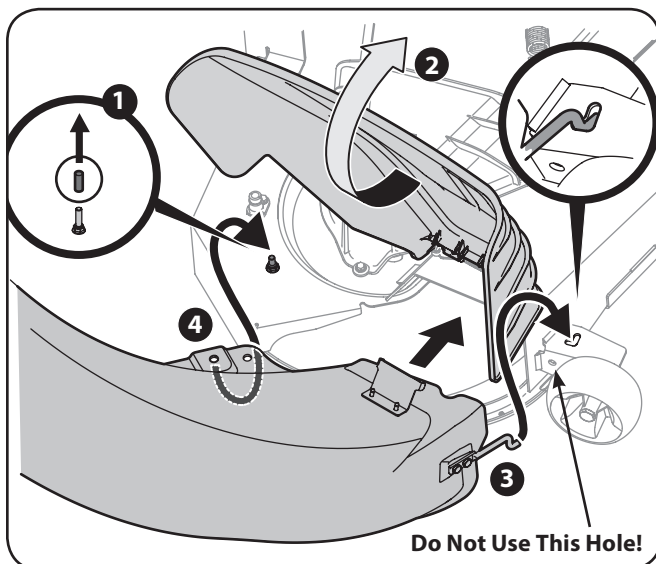

Figure 4-16
2. Remove the deck pin rubber protective cap, 1 in Figure 4-16.
3. Raise the chute deflector (2 in Figure 4-16) on the deck and hold it while you position the discharge chute over the chute opening.
4. Insert the end of the discharge chute elbow(3) into the hole provided in the deck wheel mount as shown in the inset of Figure 4-16.
5. Pivot the discharge chute rearward until the hole in the discharge chute elbow aligns with the pin on the deck. Move the discharge elbow down onto that pin as shown in 4 of Figure 4-16.